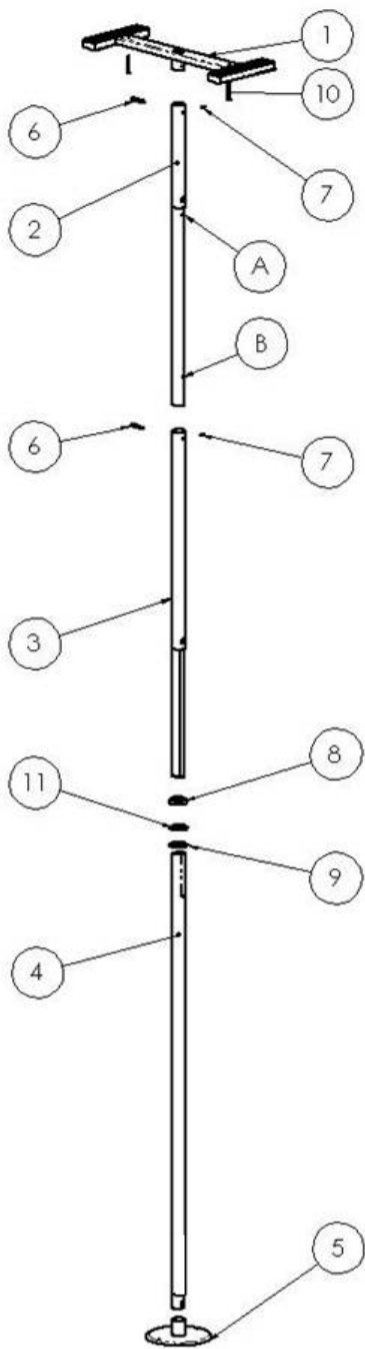
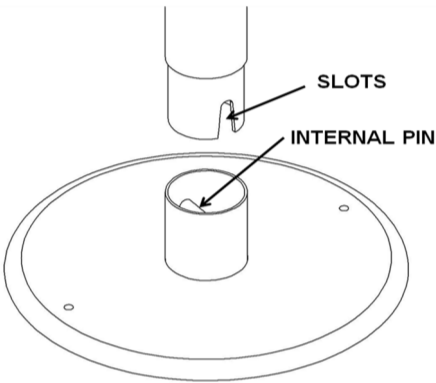

FIGURE 1
FIGURE 3
1. Take all parts out of the box and lay them on a flat surface as shown in Figure 1.
4. The Extension Tube (ITEM-2) has 2 sets of holes marked "A" and "B" in Figure 1. The set of holes marked "A" are for an 8 foot ceiling. The set of holes marked "B" are for a 9 or 10 foot ceiling.
6. Attach ITEM-5 to ITEM-4, as shown in Figure 1, by aligning the slots in ITEM-4 with the internal pin in ITEM-5 so the slots straddle the internal pin to prevent rotation between ITEM-5 and ITEM-4, and as shown in Figure 3.
NOTE: Make sure the Plastic Washer (ITEM-11) is placed between the Adjustment Nut (ITEM-8) and the Washer (ITEM-9) as shown in Figure 1 before inserting ITEM-3 into ITEM-4.